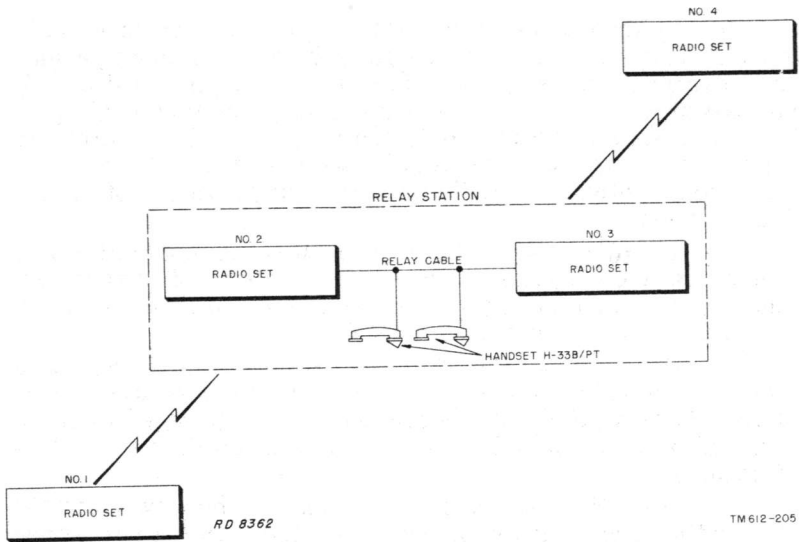

Figure 10.—Relay operation, system application.
c. **Relay operation.**—(1) At times the distance between units will be beyond the operating range of these sets, or some terrain feature, such as a high hill, may be blocking the signals of the radio sets. These conditions can be overcome by installing a relay station, in the former case, at a point approximately half-way between the stations and in the latter case by establishing the relay station on the hill causing the interference. This relay station will then pick up the transmitted signal and retransmit it to the receiving station, enabling units operating over large areas or in mountainous terrain to maintain reliable radio communications.
(2) Two radio sets can be operated as a relay station when used with a special relay cable. The relay station, once placed in operation, will operate unattended or, if desired, can be controlled by means of remote control equipment.
(3) Figure 10 shows how two radio sets are operated as a relay station. Set No. 2 is tuned to the same frequency as set No. 1, while set No. 3 is tuned to the same frequency as set No. 4. The frequency of sets Nos. 1 and 2 must differ from the frequency of sets Nos. 3 and 4 by a few megacycles. With this arrangement, signals transmitted by set No. 1 are received by set No. 2 and passed through the relay cable to set No. 3 which retransmits the signals to set No. 4. Similarly, signals transmitted by set No. 4 are retransmitted by the relay station to set No. 1.
(4) To place the station in operation attach the connectors on the ends of the relay cable to the AUDIO connectors on the two radio sets being used as the relay station. Attach two handsets to the connectors which are spliced to the relay cable. Mount the long antenna (AT-271/PRC) on each radio set.